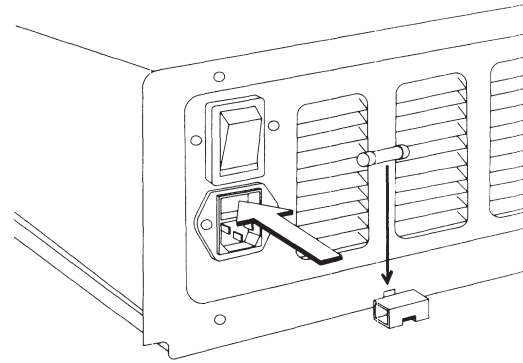

Figure 7-7. Replacing the Power Fuse.
2. Position the fuse holder in the casing, and press until you feel the fuse holder snap into place (Figure 7-7).